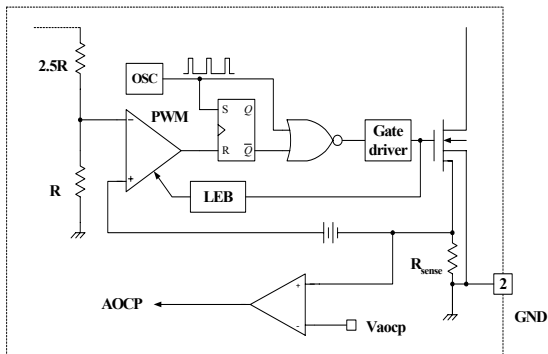

Figure 9. AOC block
3.2 Abnormal Over Current Protection (AOCP) : When the secondary rectifier diodes or the transformer pins are shorted, a steep current with extremely high di/dt can flow through the SenseFET during the LEB time. Even though the FS7M-series has OLP (Over Load Protection), it is not enough to protect the FPS in that abnormal case, since sever current stress will be imposed on the SenseFET until OLP triggers. The FS7M-series has an internal AOCP (Abnormal Over Current Protection) circuit as shown in Figure 9. When the gate turn-on signal is applied to the power Sense FET, the AOCP block is enabled and monitors the current through the sensing resistor. The voltage across the resistor is then